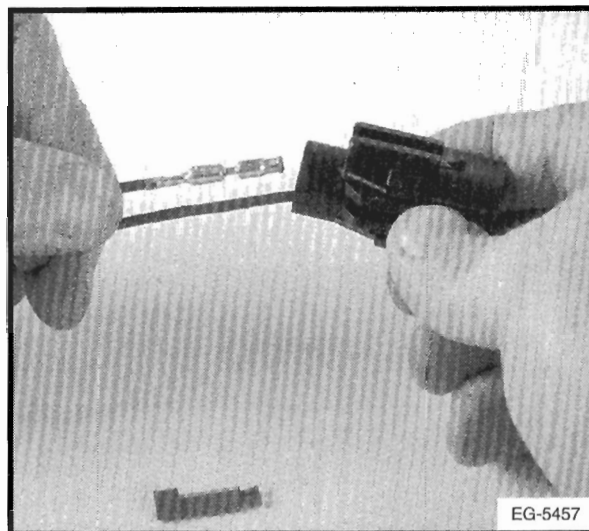

Figure 6-22. – Remove Terminal From Connector
3. Pull the wire and terminal out of the connector body (Figure 6-22.).